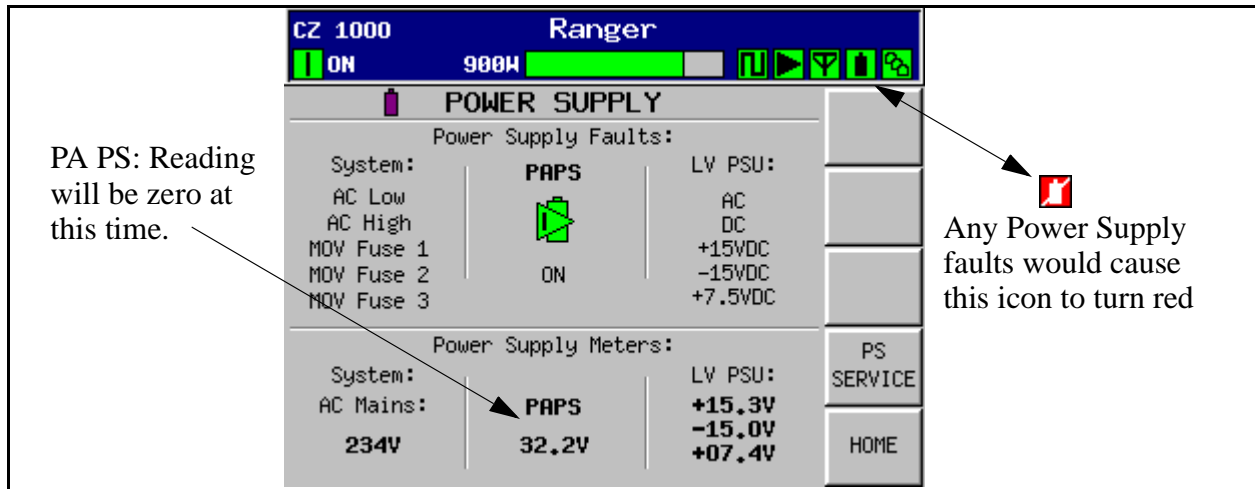

Figure 2-3 Power Supply Metering
☐ **Calibrate the AC Mains Reading.** Check your ac mains voltage at the disconnect box. Next press the PS SERVICE button shown in Figure 2-3. This will take you to the screen in Figure 2-4. Use the +/- buttons at the bottom of the screen to set the AC Mains voltage to the same as your measured ac voltage. This is a critical adjustment as this reading is used for the AC low and high fault thresholds.
- Switch ON the ac breaker on the front of the PA power supply.** Monitor the Power Supply screen shown in Figure 2-3 on page 2-11.